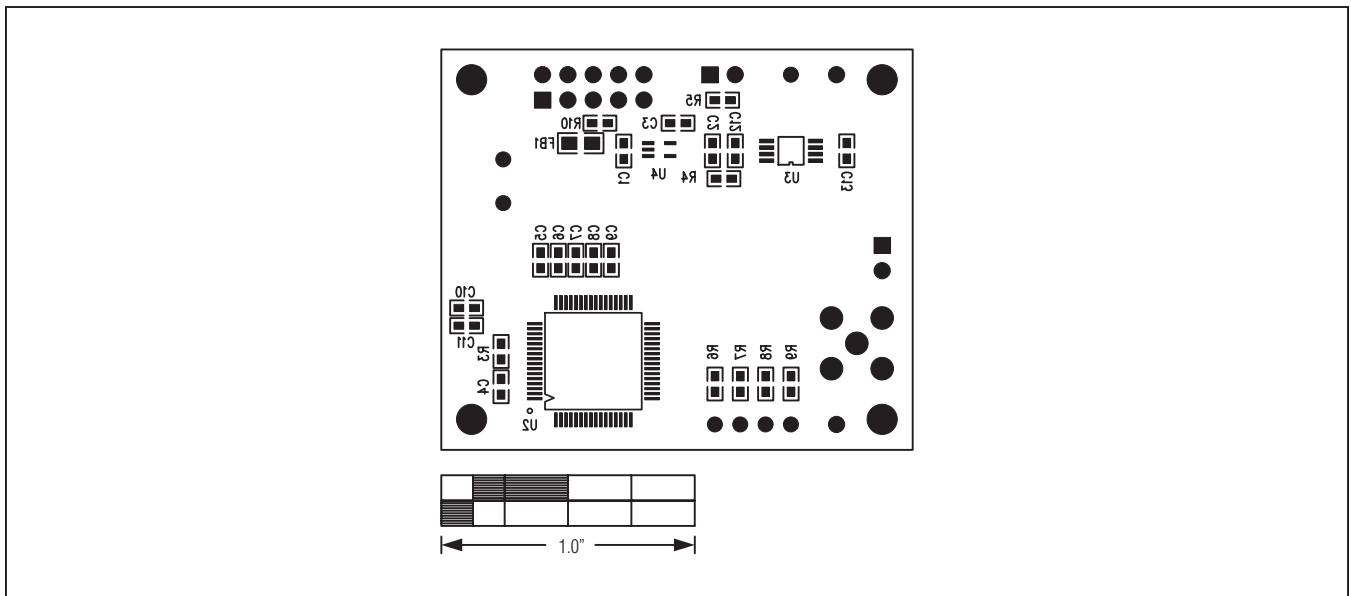

Figure 10. MAX5214DACLite EV Kit Component Placement Guide—Component Side (Bottom)
- 1) Totally disconnect the U1 and U3 devices from the rest of the board by removing resistors R4–R9 (see Figure 10 for component placement).